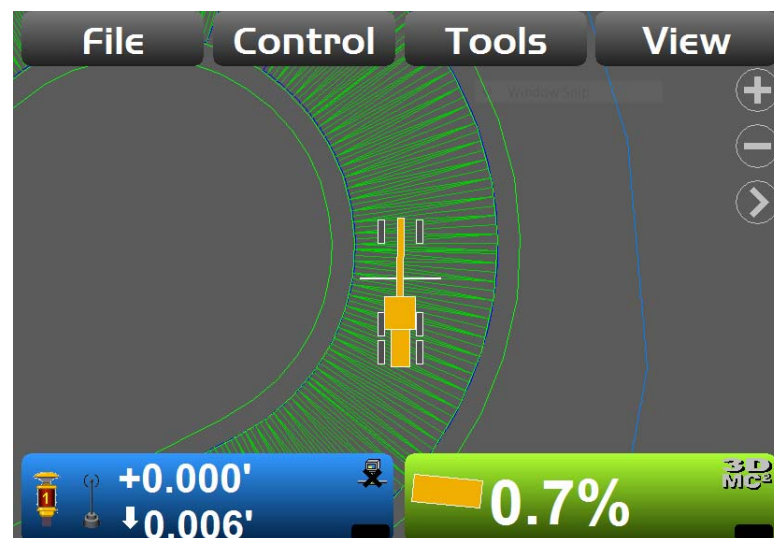

Figure 62: 3D-MC mmGPS
6. Tap **OK** to save all settings and return to the main screen (Figure 62).